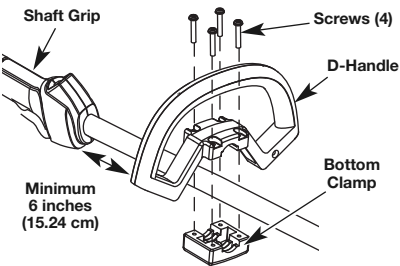

Fig. 5
1. Place D-handle over the shaft housing and onto the bottom clamp (Fig. 5). Place it a minimum of 6 inches (15.24 cm) from the end of the shaft grip.